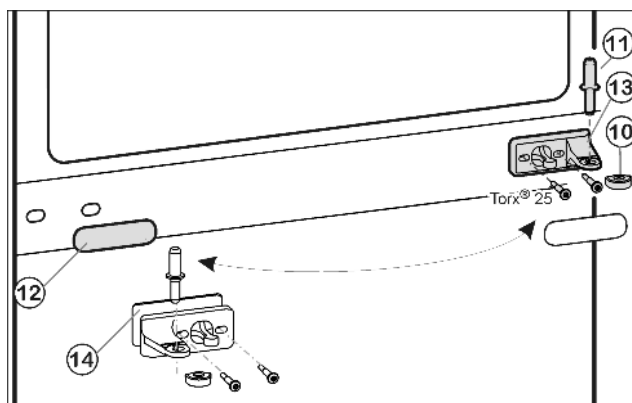
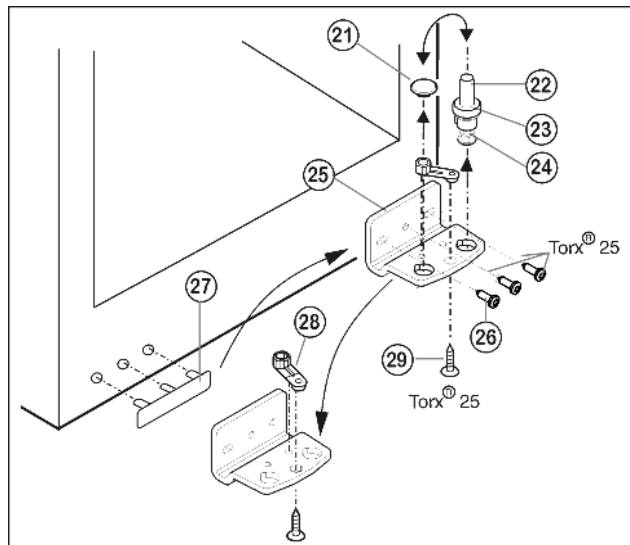

Fig. 5
Fig. 6
- Draw the middle bearing pin Fig. 5 (11) out of the turn hinge and lower door.
- Remove the plastic cap Fig. 5 (10).
- Unscrew the middle turn hinge (2x Torx® 25). Fig. 5 (13)
- Carefully detach the cover panel Fig. 5 (12).
- Turn the middle turn hinge Fig. 5 (13) with the washer Fig. 5 (14) through 180° and screw it firmly into place on the new hinge side (with 4 Nm).
- Turn the cover panel Fig. 5 (12) through 180° and snap it into place again on the new handle side.
- Lift out the bearing pin Fig. 6 (22) together with washer Fig. 6 (23) and foot Fig. 6 (24).
- Lift off the stopper Fig. 6 (21).
- Unscrew Fig. 6 (26) the turn hinge Fig. 6 (25).
- Unscrew Fig. 6 (29) the bearing element Fig. 6 (28), transfer it to the opposite location hole of the turn hinge and screw it firmly into place.
- Carefully lift off the cover on the handle side Fig. 6 (27) and transfer it to the opposite side.
- Screw the turn hinge Fig. 6 (25) firmly into place on the new hinge side, possibly using a cordless screwdriver (with 4 Nm).
- Re-insert the stopper Fig. 6 (21) into the other hole.
- Re-insert the bearing pin Fig. 6 (22) together with washer and foot. In so doing, pay attention that the locating lug points backwards
- Place the lower door from above onto the lower bearing pin Fig. 6 (22).
- Place the plastic cap Fig. 5 (10) back onto the middle turn hinge Fig. 5 (13).
- Place the middle bearing pin Fig. 5 (11) in the lower door, on the new hinge side, through the middle turn hinge Fig. 5 (13).
- Place the upper door on the middle bearing pin Fig. 5 (11).
- If necessary, align the doors to the appliance housing by way of the two oblong holes in the bottom turn hinge Fig. 6 (25) and middle turn hinge Fig. 5 (13). To do so, unscrew the middle screw in the bottom turn hinge Fig. 6 (25).